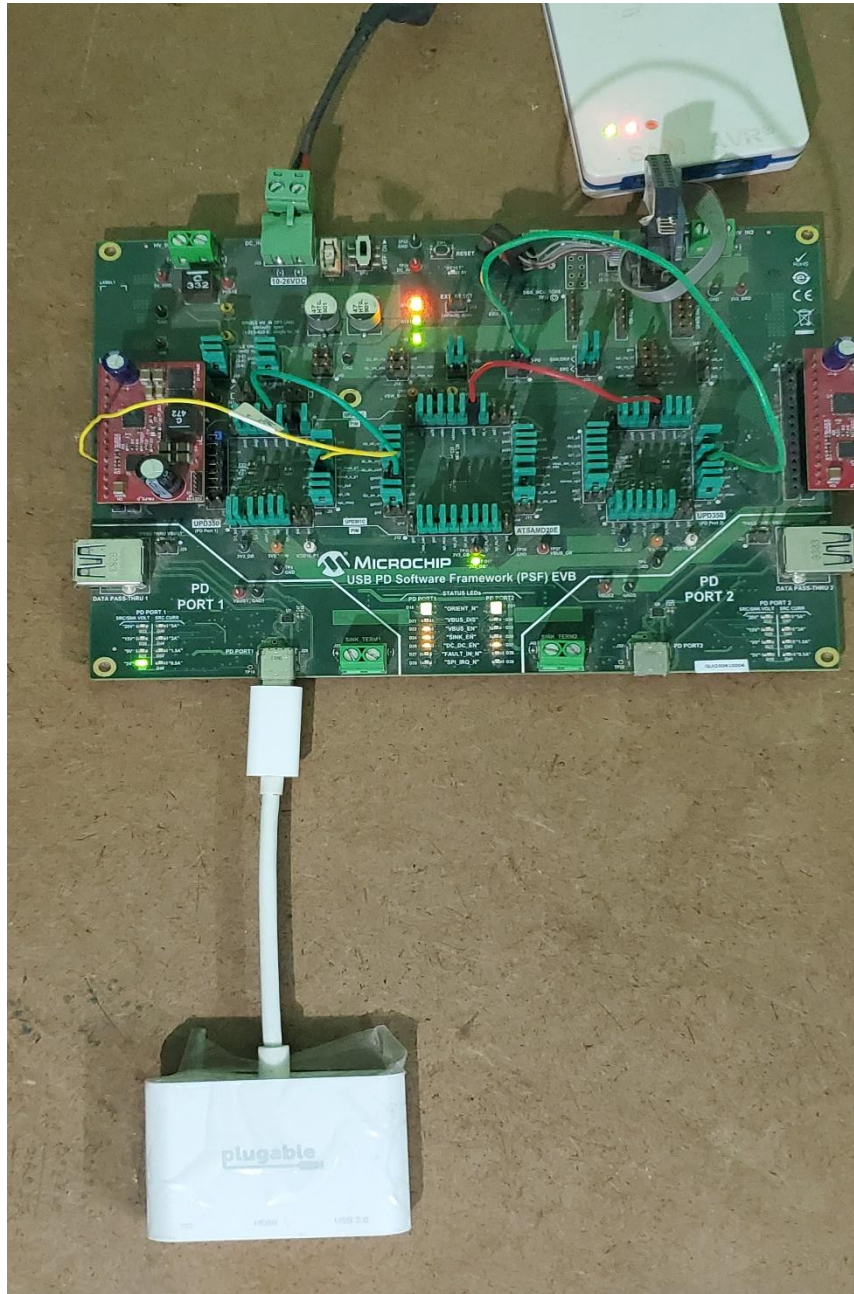

Figure 6.2 PSF and Dock after an FRS
5. Figure 6.2 highlights what the PSF and Plugable Dock looks like after the FRS has successfully completed. Now, PSF becomes the power source and the dock becomes the power sink.